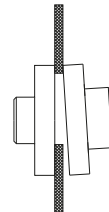

Figure 10a. Angle error in horizontal plane and adjustment
- In order to control the angular mistake, the distance between two parts of the coupling should be measured mutually on horizontal and vertical planes. The clearances measured at these four points should be equal (Figure 10a,10b).
• Adjustment mistakes may be on the horizontal and/or vertical plane. Mistakes on the vertical plane may be made by putting thin metal sheets under the pump or motor mounts and the mistakes on the horizontal plane by benefiting from the gaps in the connection holes or sliding the engine on the horizontal plane. Manner and order of the coupling adjustment is shown in the Figures 10a, 10b, 10c and 10d, respectively.